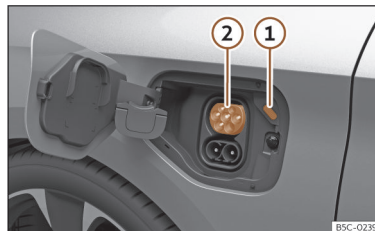
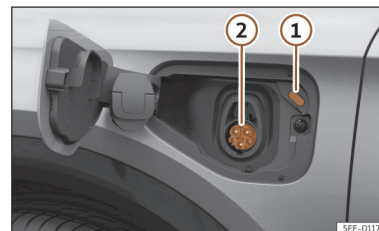

Fig. 60 Behind the battery charging cover on the front left-hand side: Charging socket
Fig. 61 Behind the battery charging cover on the front left-hand side: Charging socket (depending on the market).
>>> Fig. 60, >>> Fig. 61
The LED (charging process indicator) of the charging socket ① flashes or flashes white >>> **Fig. 60** , >>> page 87.